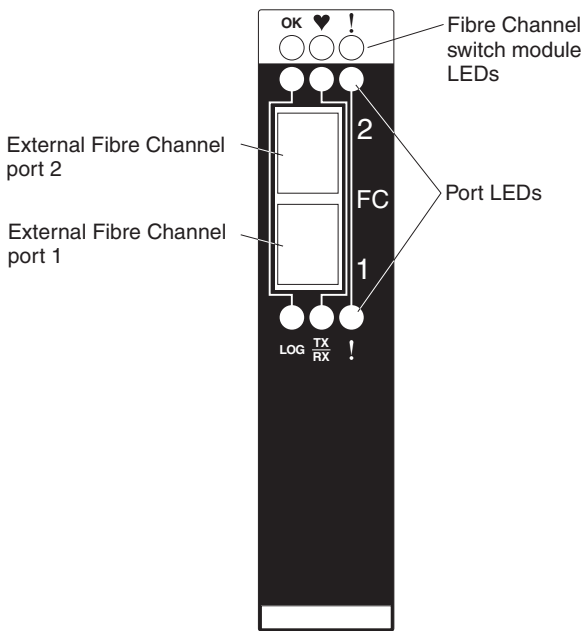

Figure 6. Fibre Channel switch module information panel
The switch module information panel contains LEDs and two Fibre Channel ports, as shown in Figure 6.
- Two external Fibre Channel ports to connect Fibre Channel devices, end devices, and servers. These ports are identified as port 2 and port 1 in the switch configuration menus and are labeled 2 and 1 (from top to bottom) on the switch module, as shown in the Figure 6.